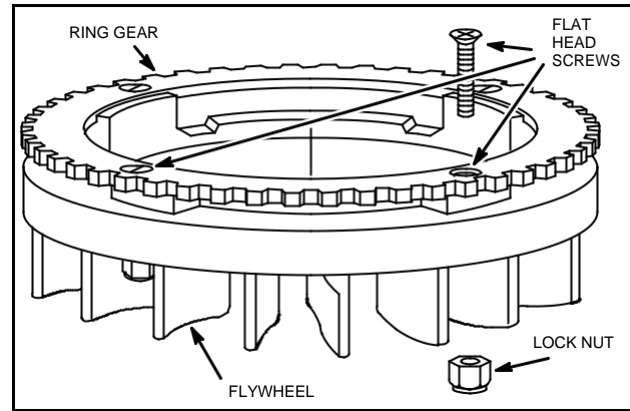

Fig. 39 – Replacing Ring Gear
4. Attach new gear to flywheel using four screws and locknuts provided with gear, Fig. 39.